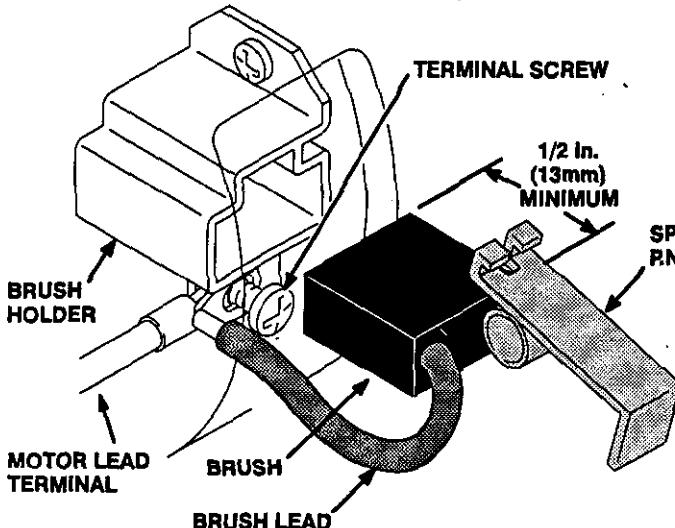

Fig 17
**NOTE 1:** Replace the brushes when they have worn to less than 1/2 in (13 mm). Refer to Fig 17. Note that the brushes wear differently on each side of the motor, so check them both. Brush Repair Kit 235-727 is available.
2. Push in the spring clip and release its hooks from the brush holder. Pull out the spring clip. See Fig 17.
3. Loosen the brush lead terminal screw. Pull the brush lead away, but leave the motor lead terminal in place. Remove and discard the brush. See Fig 17.
6. Place a new brush in the holder so the lead is closer to the fan-end of the motor. Slide the terminal under the terminal screw washer. Ensure the motor lead is still connected at the screw. See Fig 17.